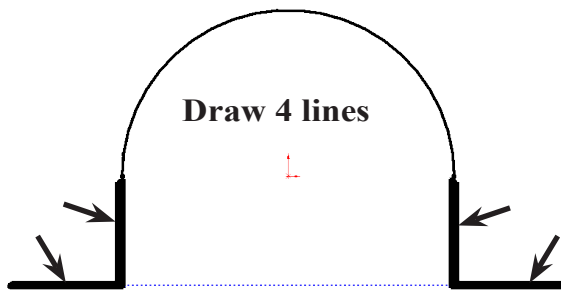
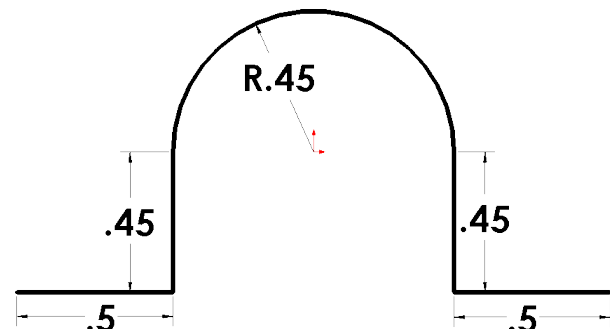

Fig. 3
Fig. 4
Step 6. Draw the lines in **Fig. 3**. Start the lines tangent - at the ends of the arc.
Step 7. Click **Smart Dimension**  (S) on the Sketch toolbar.
Step 8. **Dimension the .45 radius first**, then the others dimensions as shown in **Fig. 4**.